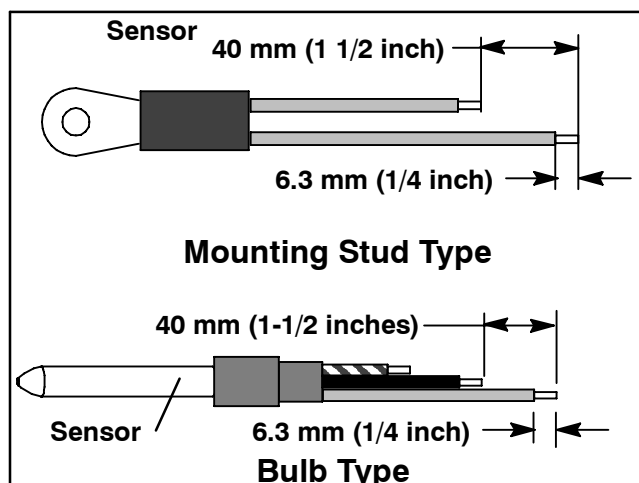

Figure 47. Sensor Types
- If required, prepare the replacement sensor by cutting sensor wire(s) back 40 mm (1-1/2 inch). For three wire sensors the black wire should be cut at the middle length and the red/white wire cut to the shorter length. (See Figure 47)